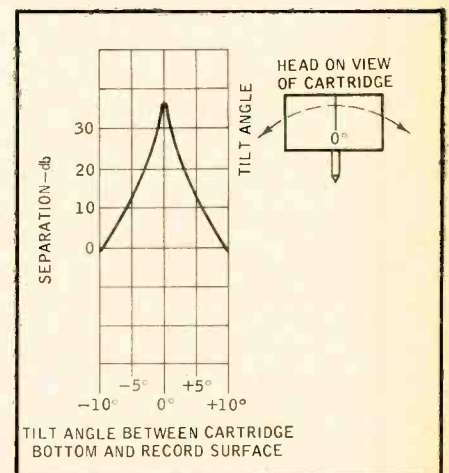

Fig. 5 Separation vs. cartridge tilt for Shure M44-7 cartridge at 1000 Hz.
1. Looking at the cartridge from the front, the bottom of the cartridge should nominally be parallel to the record. Figure 5 shows how a slight rotation of the cartridge about its longitudinal axis can change the separation. It has also been found that the peak separation on several test